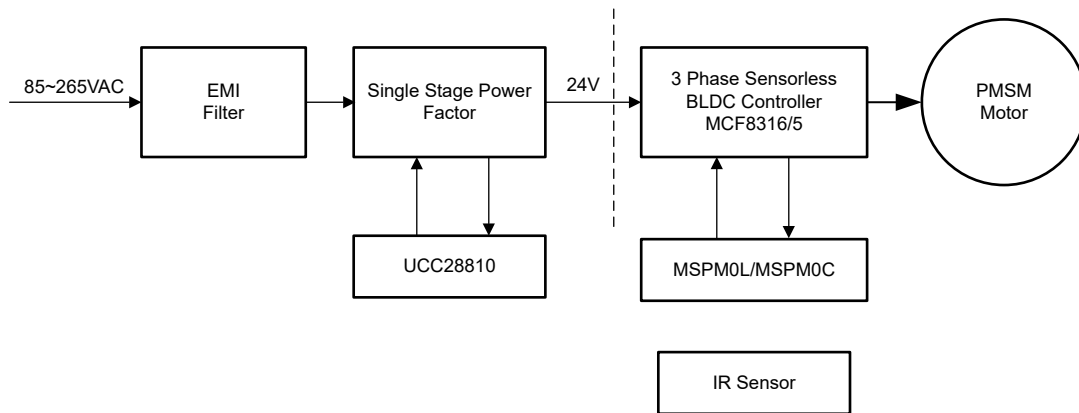

Figure 1-1. TIDA-010951 Block Diagram
As Figure 1-1 shows, a buck power factor correction PFC power stage converts the 85V to 265V, AC input to a regulated 24VDC output. This design utilizes a UCC28810 PFC IC to control this power stage. The 24VDC generated by the power stage is used to power the three-phase sensorless FOC BLDC motor controller MCF831x. This drives the motor to control the speed. The MCF8315 and MCF8316 (MCF831x) controller also generates a 3.3V supply, which powers the microcontroller (MCU). The MSPM0L and MSPM0C MCU transmits the speed reference to the MCF831x controller in the form of a pulse-width modulation (PWM) signal producing a duty cycle proportional to the desired speed. This PWM signal is based on the signal received from the infrared (IR) sensor, which in turn is activated by a general-purpose IR remote control. Customizing the firmware of the MCU is easy for any given remote-control data format.